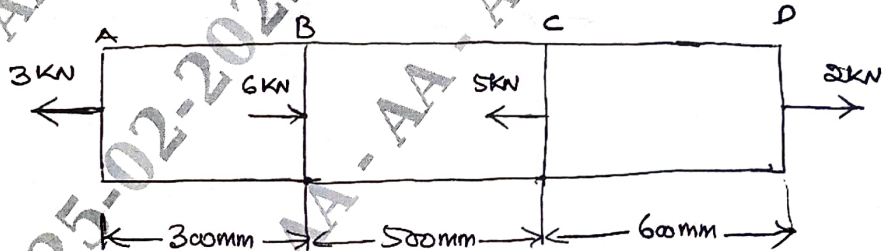

Fig. Q2 (b)
- b. Find the total strain in the bar, when it is subjected to forces, as shown in Fig. Q2 (b). The cross sectional area throughout is  $400 \text{ mm}^2$ . Take  $E = 2.0 \times 10^5 \text{ N/mm}^2$ . Determine the stresses in each portion. (09 Marks)